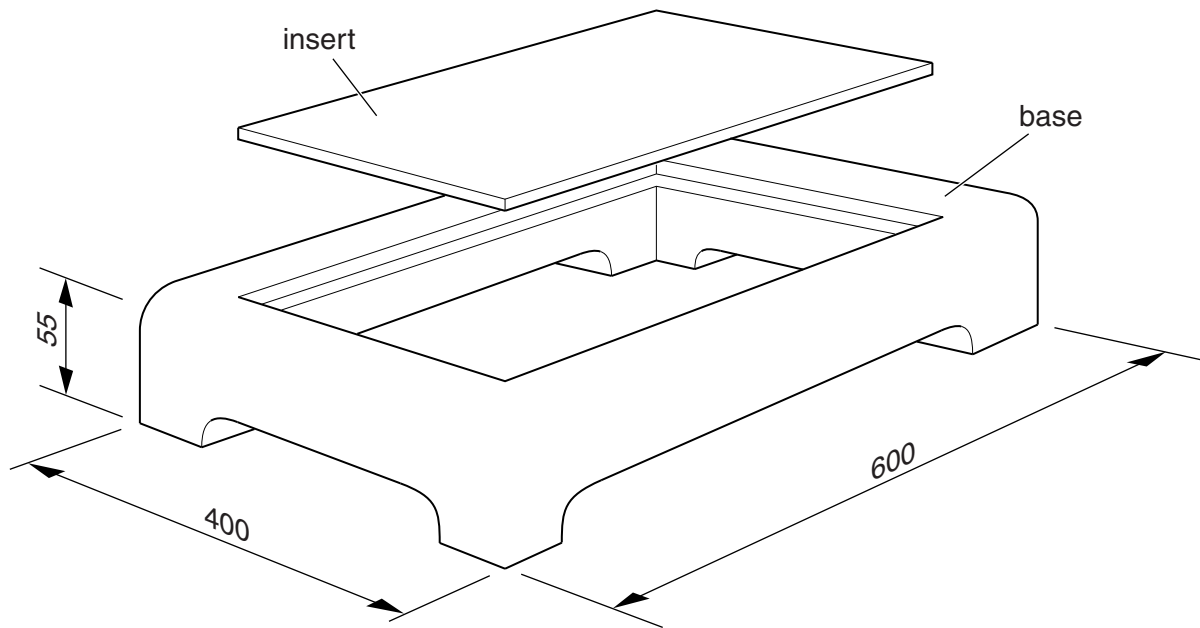

Fig. 9
15 The design for a bathroom step to help elderly people is shown in Fig. 9.
- (a) State **two** important properties that the step aid shown in Fig. 9 should have in addition to a non-slip surface. [2]